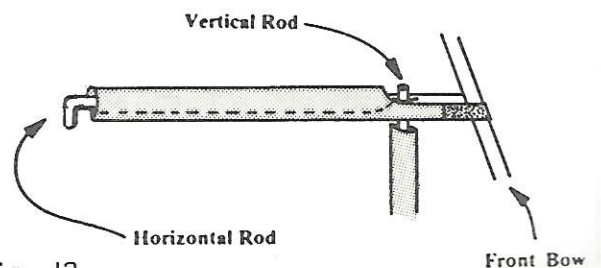

Fig. 13
4. Attach fasteners around front Bow as shown in Figure 13.